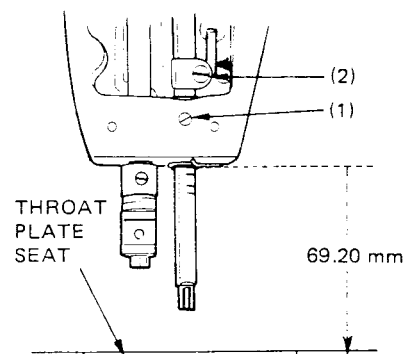

Fig. 6
Lower end of bushing must be set as shown in Fig. 6. To reset the bushing, loosen screw (1).
Loosen clamping screw (2), Fig. 6. Raise or lower needle bar, as required. Then securely tighten screw (2).